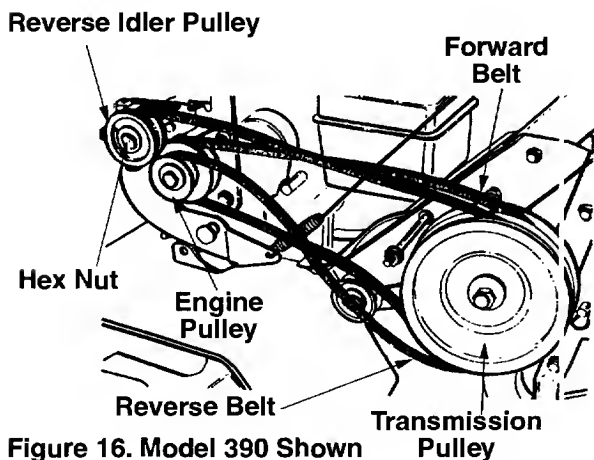

Figure 16. Model 390 Shown
5. Remove the hex nut which secures the reverse idler pulley to the idler bracket. Slide idler pulley out and remove the belt. (See Figure 16)
Forward Drive Belt (See Figure 16)